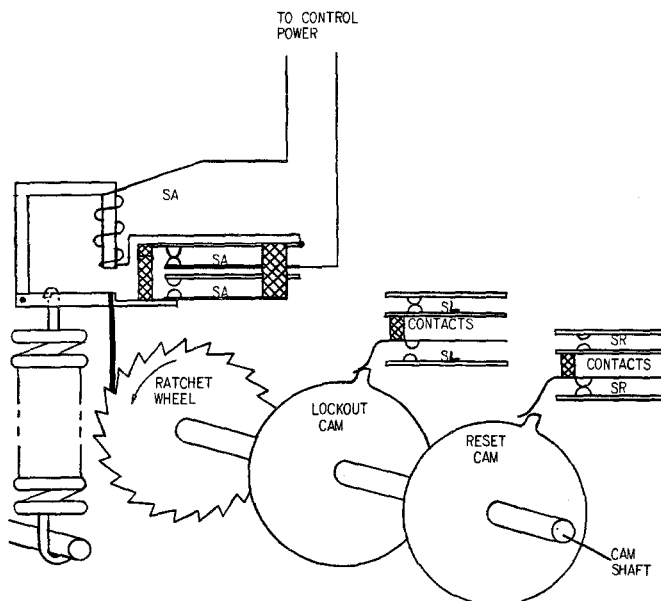

Fig. 5 (0178A9144-0) Stepping Switch For NLR Relays
In the NLR relay when the timing circuit turns the SCR on, it operates the stepping switch armature. The armature movement opens one "SA" contact and closes another "SA" contact as shown schematically in Fig. 4 and Fig. 5. The opening of the SA contact turns the SCR off and the closing of SA contact completely discharges the capacitor C1 to reset the timing circuit. When the armature picks up it also raises the driving spring enough to clear the next tooth on the ratchet wheel and the driving spring snaps into the next notch. When the SCR is turned off by the SA contact the armature coil is de-energized and its main spring rotates the ratchet wheel 10 degrees. At this point the timing circuit starts timing again and it will rotate the stepping switch ratchet wheel another 10 degrees after another time interval has elapsed. All stepping switch operations will have the same time interval.
The ratchet wheel of the stepping switch is solidly connected to a cam shaft which contains three main cams. The two cams nearest to the ratchet wheel (schematically shown in Fig. 5) have
only one lobe each and therefore raise their associated contact operating springs only during one step interval for each revolution of the ratchet wheel. A third cam (not shown in Fig. 5) has 3 adjustable lobes and these lobes may be set to raise their associated contact operating spring on any desired step. When the adjustable cam lobes raise their contact operating spring they close two "SC" contacts shown in Fig. 4B and one of these supplies the breaker closing signal. Since the adjustable cam lobes can be set to close the "SC" contact on any step of the ratchet wheel they can provide a breaker closing signal at reset (an instantaneous breaker reclosing signal) and - or on any subsequent step until the lockout position is reached which is 35 steps after reset. The schematic diagram Fig. 5 shows the ratchet wheel in the lockout position. In this position the (SL) lockout cam opens its SL contacts to open up the breaker closing circuit and the timing circuit (which prevents any further operation of the stepping switch until the breaker is manually closed as explained later) and closes an SL contact to ring an alarm. When the stepping switch armature coil is energized again, the switch steps from lockout to the reset position (as explained later).